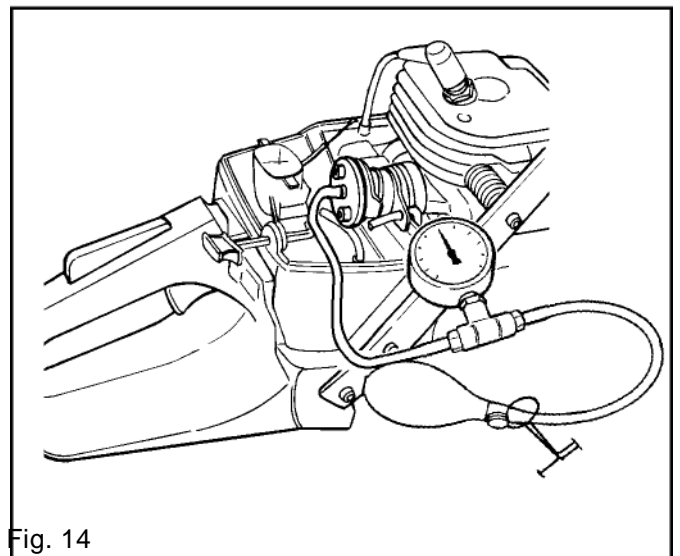

Fig. 14
2. Connect tool 502 50 38-01 to the cover plate on the inlet manifold. See fig. 14. The decompression valve should be closed.